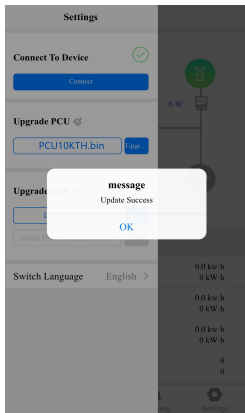

Figure 4-20
7. Check the version of the software. (Figure 4-20)